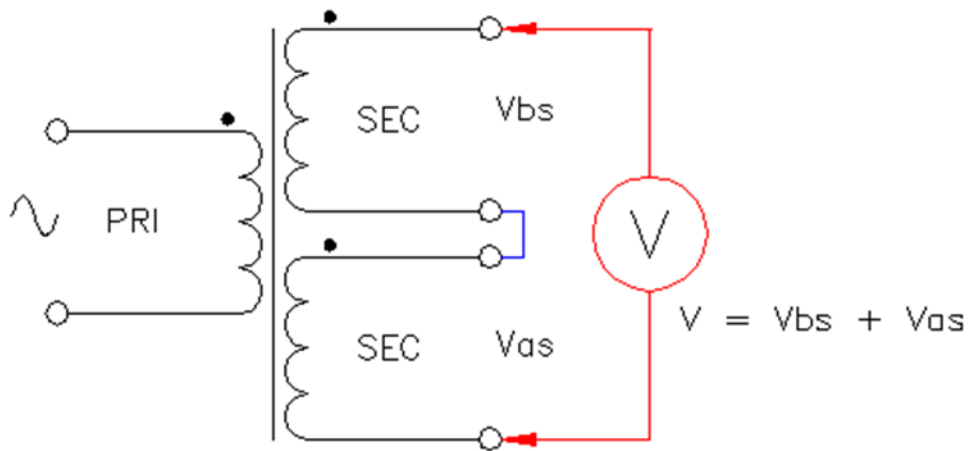

Figure 14 - Series aiding
38. Figure 14 shows the effect of terminals of unlike and like polarity being connected together this is known as a 'series aiding' connection.